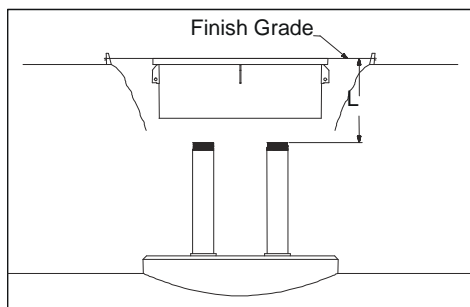

Figure 2
2. Set multi-port manhole assembly (skirt, ring, and cover) to the final grade position. (See Figure 2.)
(See Figure 2.)